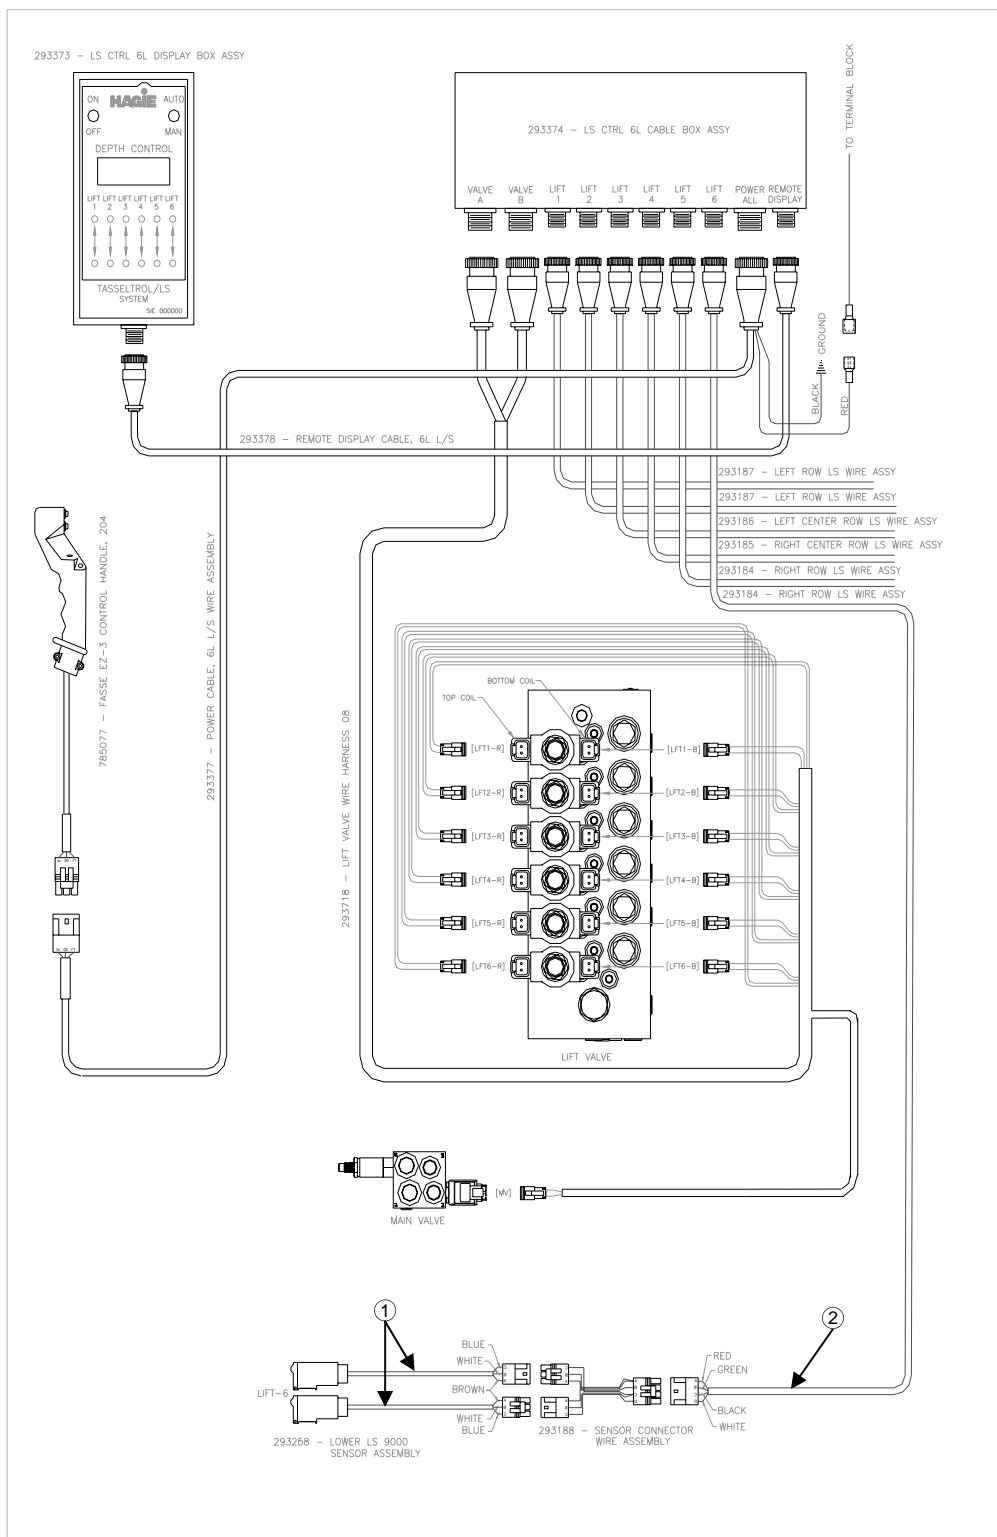

FIG 9.1
No lights at either photo sensor	Faulty connector cable (See page 125, fig. 9.1, item 2) Faulty RED and/or BLACK wire in connector cable (See page 125, fig. 9.1, item 1)
Lights at lower photo sensor	<p>Faulty GREEN wire in connector cable (See page 125 fig. 9.1, item 2)</p> <p>Photo sensor not in line with reflector , call Hagie Manufacturing Customer Support.</p> <p>Faulty BLUE wire in sensor assembly (See page 125, fig. 9.1, item 1)</p>
No lights at lower photo sensor	<p>Faulty RED and/or BLACK wire in connector cable (See page 125, fig. 9.1, item 2)</p>
Lights at upper photo sensor	Faulty WHITE wire in sensor assembly (See page 120, fig. 9.1, item 1) Faulty BLUE wire in sensor assembly (See page 120, fig. 9.1, item 1)
No lights at upper photo sensor	Faulty RED and/or BLACK wire in connector cable (See page 120, fig. 9.1, item 2)